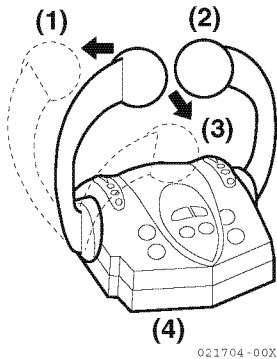

Figure 14
Use the two-lever control head (Figure 14, (4)) in the helm station for AHEAD (Figure 14, (1)), ASTERN (Figure 14, (3)), NEUTRAL (Figure 14, (2)) and speed control in a twin installation.